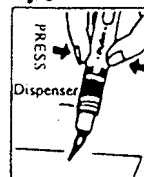

Fig. 4
5. Apply flux with the pencil (fig. 4). The quantity of flux depends on the pressure applied to the reservoir.